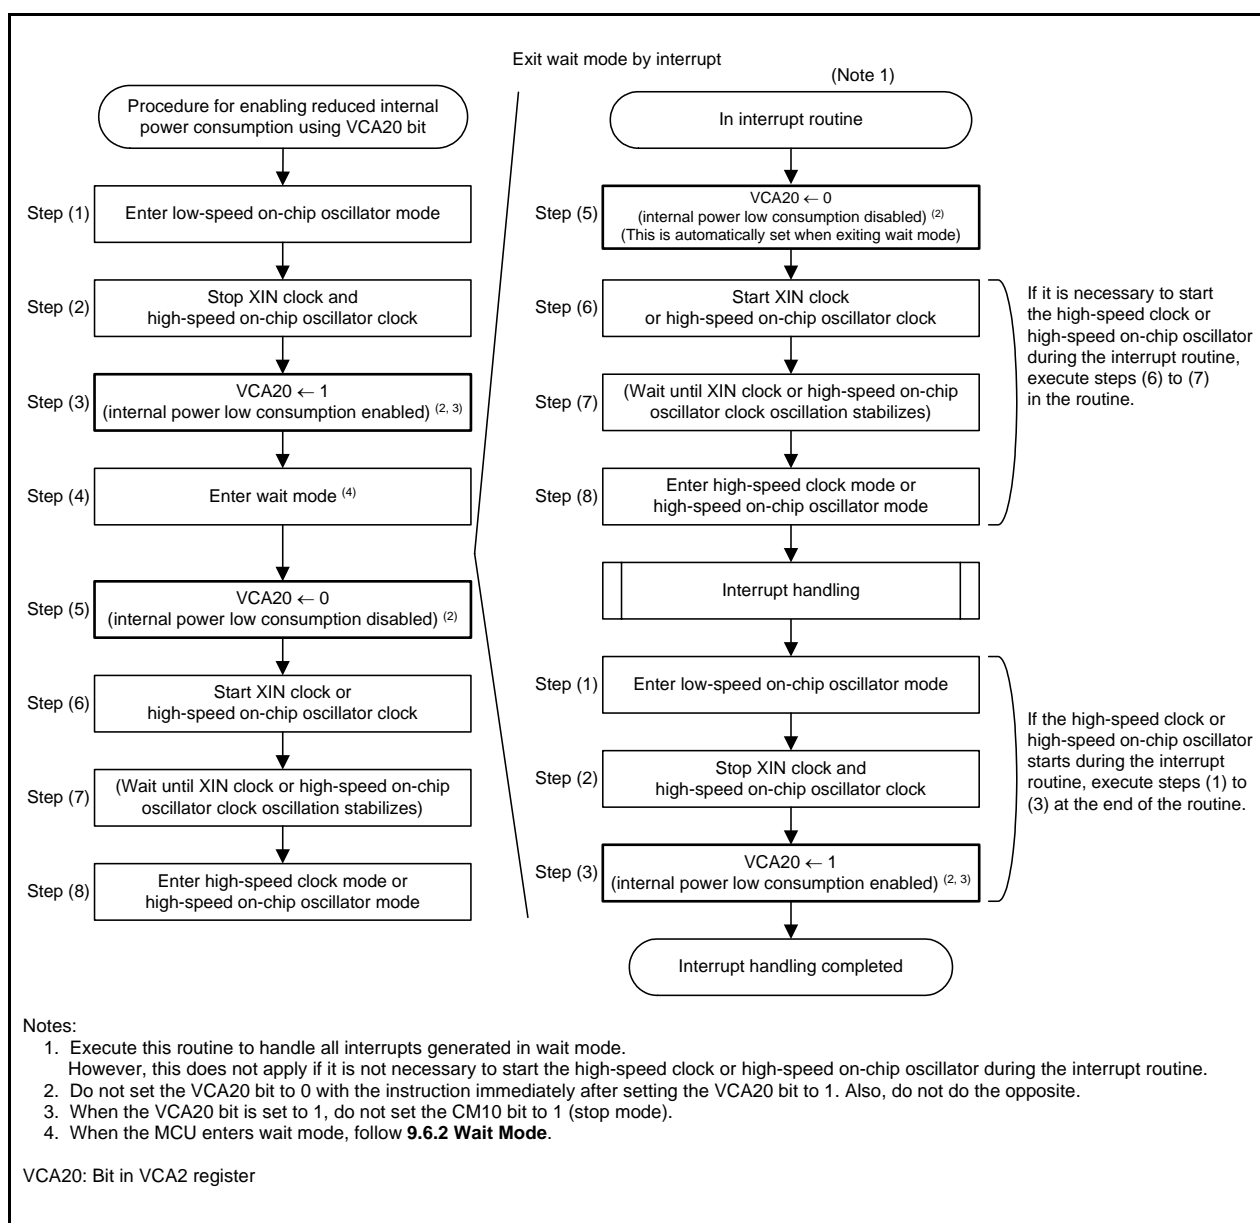

Figure 9.3 Procedure for Reducing Internal Power Consumption Using VCA20 bit
1. Use the VCA20 bit only when the MCU enters wait mode. To set the VCA20 bit, follow the procedure shown in **Figure 9.3 Procedure for Reducing Internal Power Consumption Using VCA20 bit**.